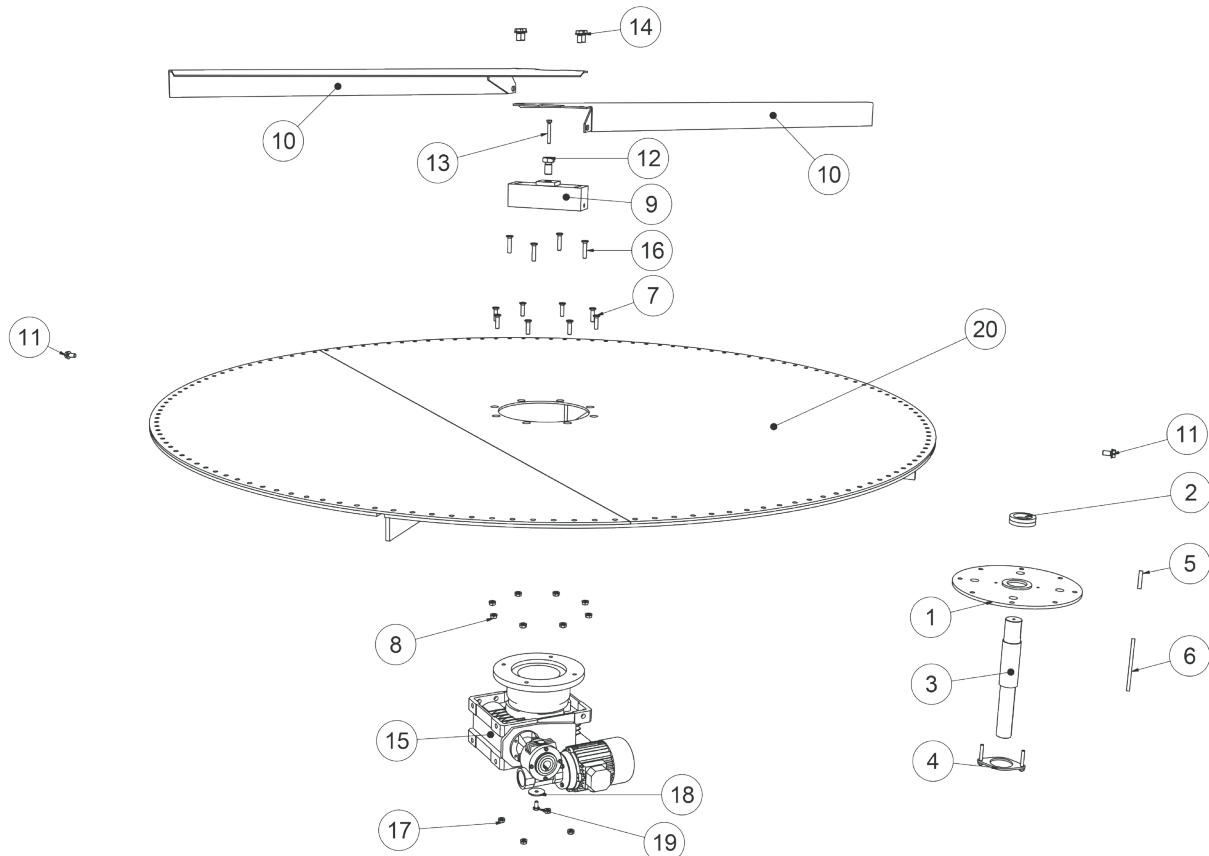

Fig. 01
See Fig. 01. Assemble the hub first: Attach seals (2) to the hub (1). Slide the axle (3) through the hub and align with the seals. Then slide on the gasket bolts and brackets (4). Do not adjust the assembly until the entire hub is attached to the base (20). You can attach the lock pin (5 and 6) now – or you can attach it while assembling the internal part of the hub (9) and gear motor (15).